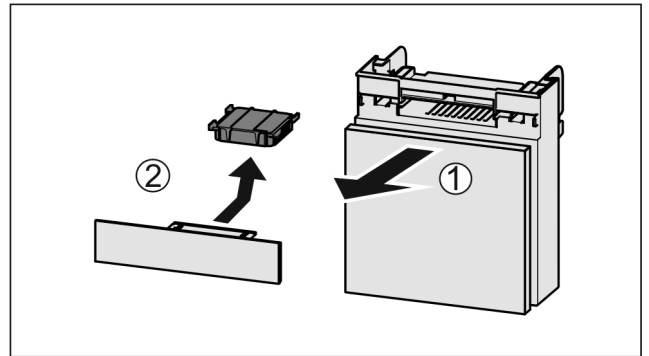

Fig. 153
- ▶ Pull out the compartment Fig. 153 (1).
- ▶ Remove the carbon filter Fig. 153 (2).